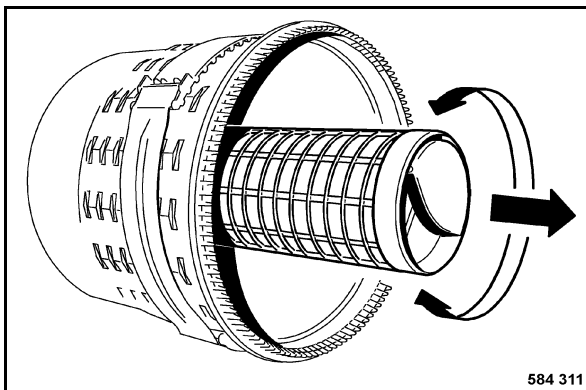

Fig. 188
- Pull the safety element (Fig. 188) out by turning it lightly.